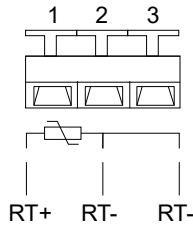

Figure 6 AcuTEMS DM Wiring Terminals for Resistive Output
4. Adjust the AcuTEMS DM probe to the required depth, and use the remaining screws to tighten the flange clamp to secure the probe. Refer to Figure 6 for details.